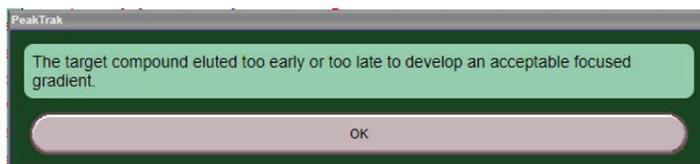

Figure 1- Message indicating the ACCQPrep® is unable to calculate a focused gradient because the compound eluted too early or too late.
The focused gradient generator assumes a elution time of between 4 to 5 column volumes (CV) for the preparative run. We will use column volumes because this measure is invariant to column width, length, and flow rate, ignoring dwell volume. When the program indicates it is unable to calculate a gradient as per Figure 1, it really means it is unable to create a gradient that causes elution at 4 to 5 column volumes, but the compound is often able to elute with a different retention time. The message in Figure 1 causes confusion because the user can often see the peak eluting during the scouting run, and the gradient reported by the system seems to be very high. The Apparent Gradient Delay (Da) is much larger than users anticipate, so they feel the system should have calculated a gradient.